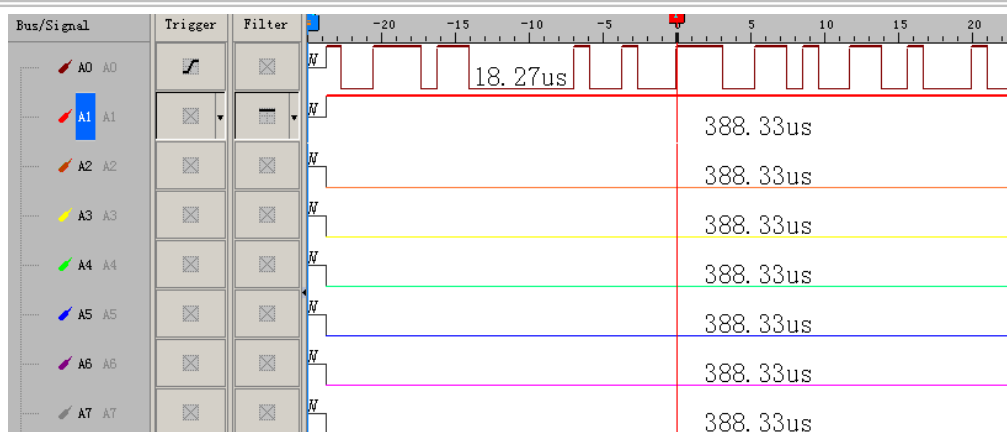

Fig 4-142 – Without/With Signal Filter Setup
6. The result will be displayed in the waveform display area as shown in Fig 4-142.